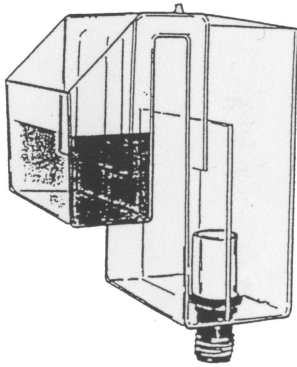

Fig. 2
3. Fix unit in appropriate position on your aquarium and allow water to fill the front chamber (Fig. 2). With the bottom adjusting knob, you can adjust the unit so that it is parallel to the tank.